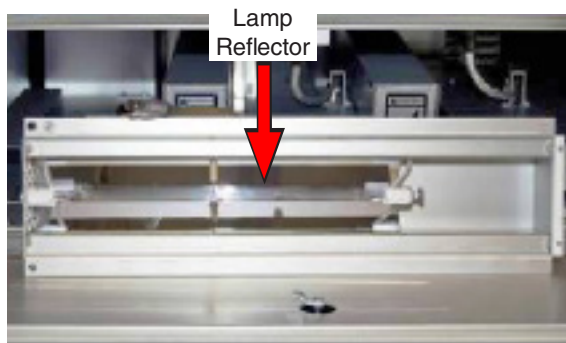

Figure 15.2b: Q-SUN Xe-3 lamp reflector in housing.
3. Wipe the reflector with alcohol and a soft cloth (Figure 15.2b).